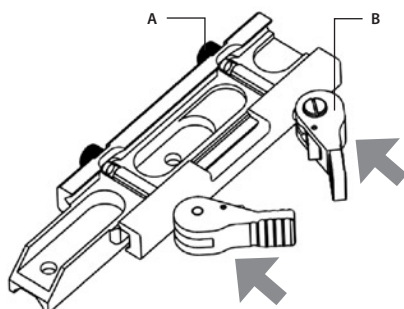

FIGURE 3-6. CLAMPING DEVICE ADJUSTMENT
2. With the clamping device unlocked (as shown in Figure 3-6), push the cam (B) towards the arrow, which will cause the nut (A) to slide out of its hole.
3. To tighten/ loosen the clamping device, push down on the cam (B) and turn the nut (A) CW/ CCW respectively, in one-two increments (see note below). Much like when the cam (B) is released, backward-moving springs will cause the nut (A) to slide back into its hole.